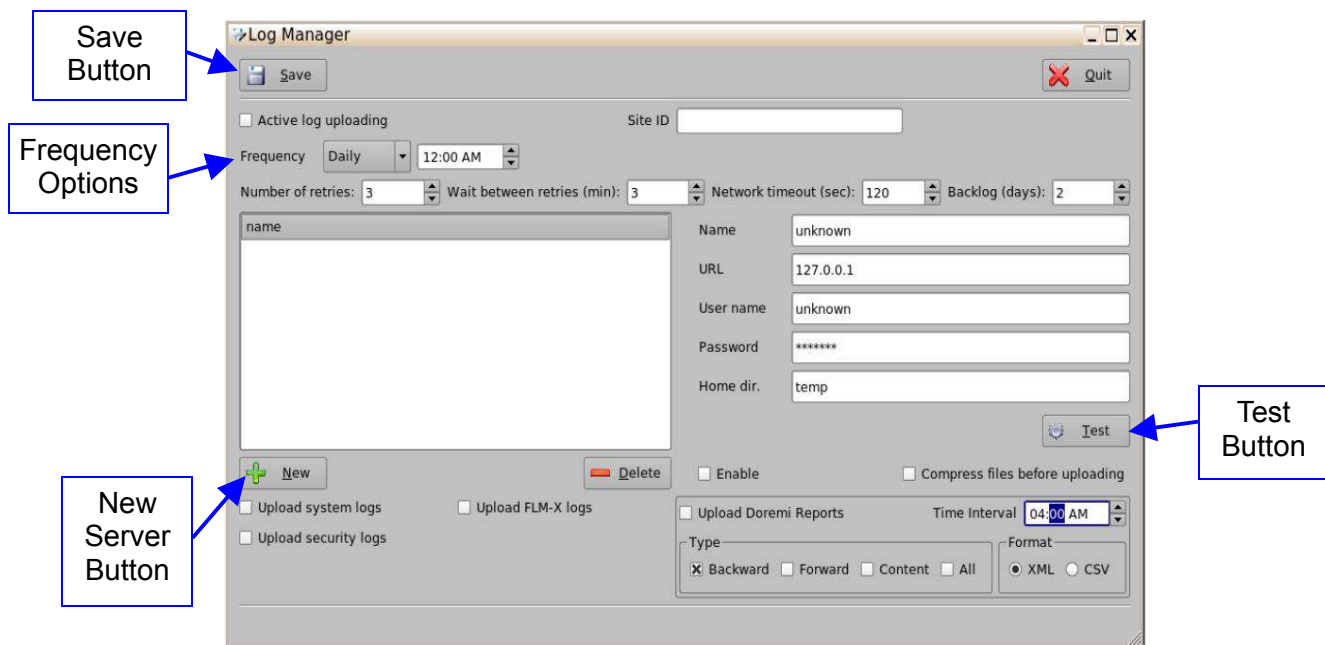

Figure 121: Log Manager
- The following window will appear (Figure 121).